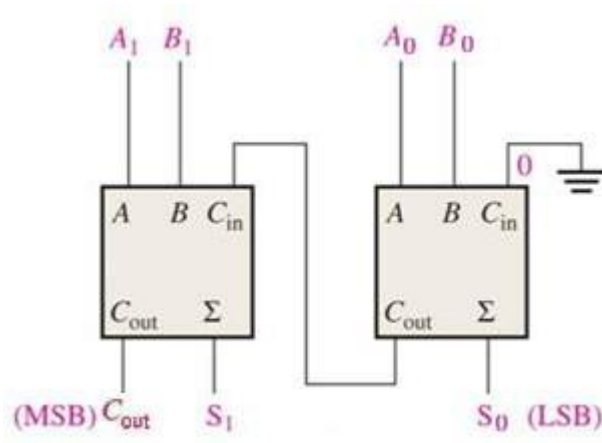

Figure 4.2 - Block diagram
3. Make necessary changes as per Figure 4.2.